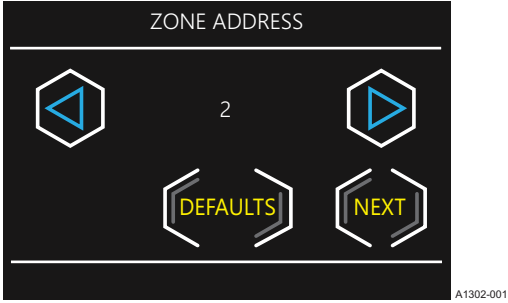

Figure 14: Zone thermostat address configuration - Hx 3 Touch Screen Thermostat (S1-THXU430W) and Hx 3 Zone Thermostat (S1-ZCC01A)
4. Configure zone thermostat addresses if required using the **Zone Address** screen as shown in Figure 14.